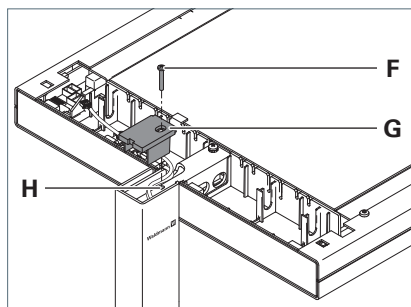

Fig. 3: Fastening the luminaire head.
- ▶ Place the cover **G** from above onto the support arm, see Fig. 3.